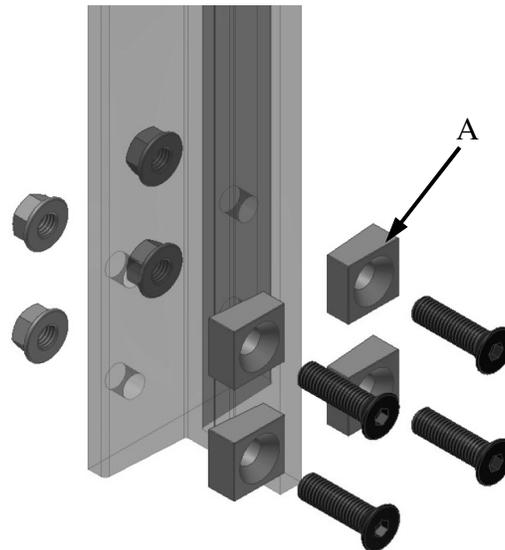

Figure 6
- Install the rail lock support blocks, item "A", using the supplied hardware. Use a small amount of Loctite on the threads of the mounting bolts to ensure the support block hardware does not become loose over time. Refer to Figure 6.